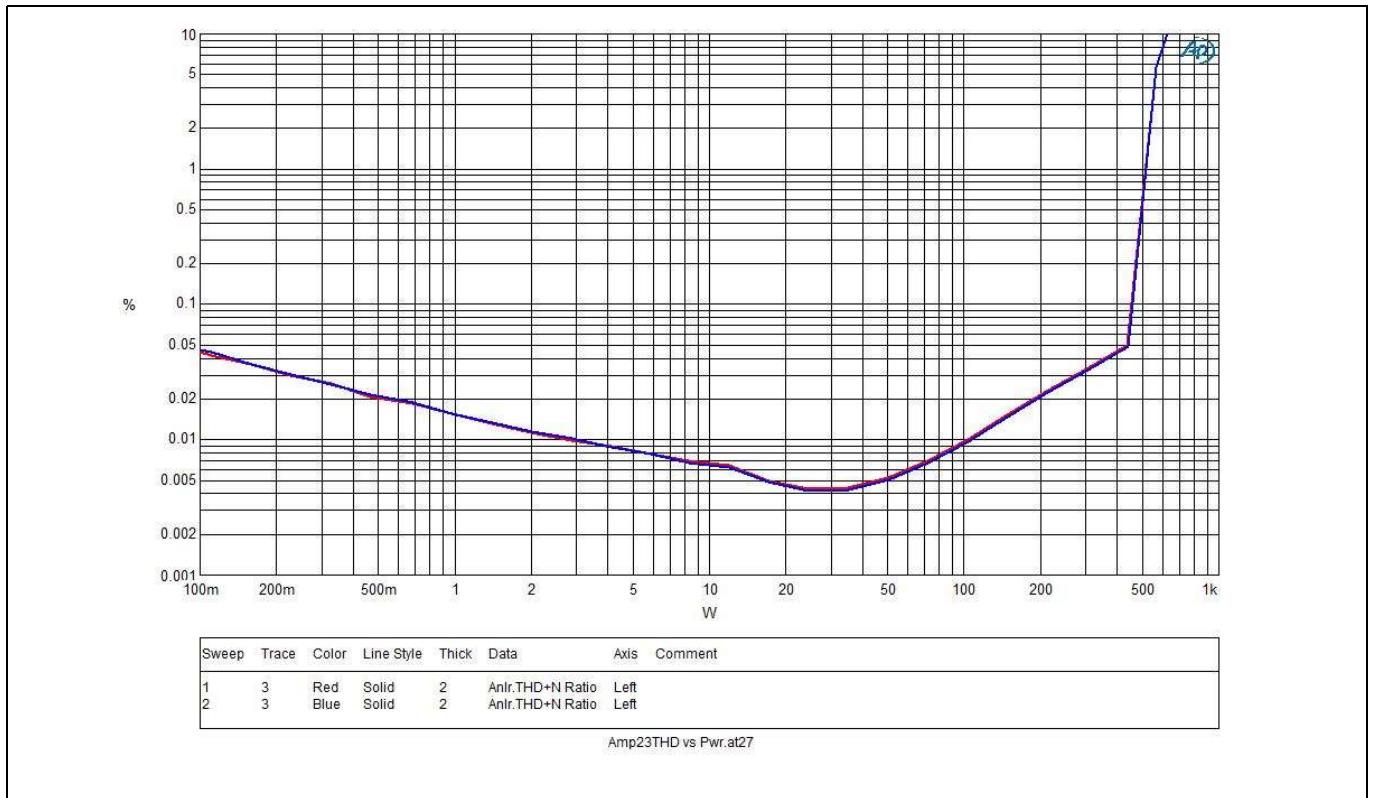

Figure 3 Power vs. THD+N
7. Use the balanced-floating signal from the generator outputs (AP).
10. Run AP test as shown in Fig 3 below.